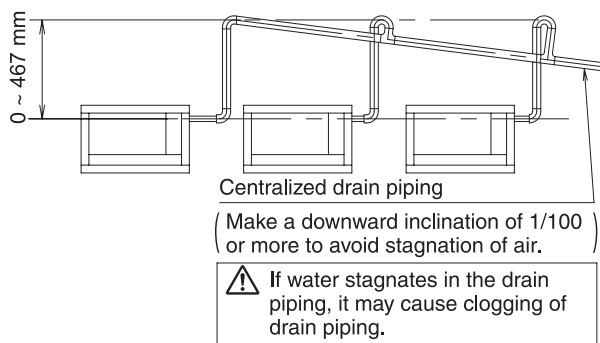

Fig. 14
- In case of centralized drain piping, carry out piping work according to the procedure shown in the following Fig. 14.